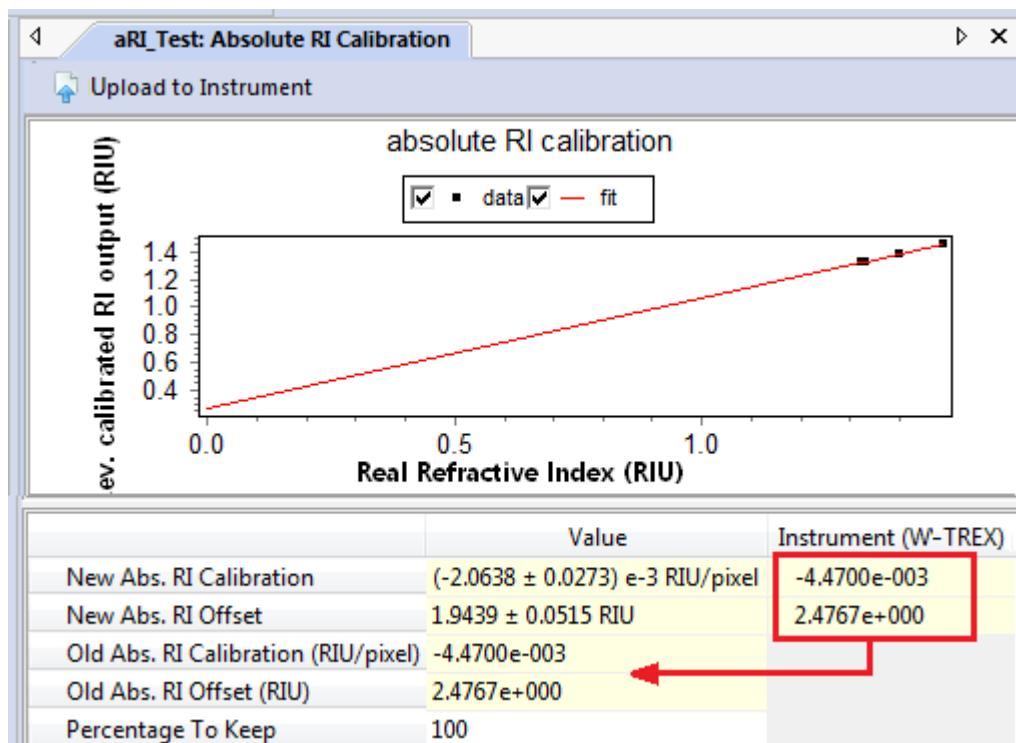

Figure 9-3: Copying New RI Values to Old Value Fields
- e. In the Absolute RI calibration procedure in ASTRA, copy the numbers from the second column in the **New Abs. RI Calibration** and **New Abs. RI Offset** rows to the first column in the **Old Abs. RI Calibration** and **Old Abs. RI Offset** rows as indicated in Figure 9-3. (Because ASTRA's calibration calculation is an adjustment, it needs the instrument's current pre-calibration constants.) These numbers are also shown on the Optilab instrument's front panel in Constants on the System tab. Click **OK** to close the window.
3. In the **Absolute RI Calibration** procedure, confirm that the instrument's values from the second column in the **New Abs. RI Calibration** and **New Abs. RI Offset** rows match the first column in the **Old Abs. RI Calibration** and **Old Abs. RI Offset** rows as indicated in Figure 9-3. Click **Apply**.